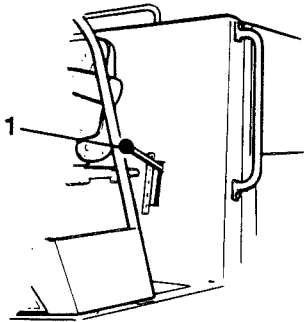

Fig. 9 Operator's platform
- 3 Set the gear lever (1), Fig. 9, to the desired position (see the sticker).